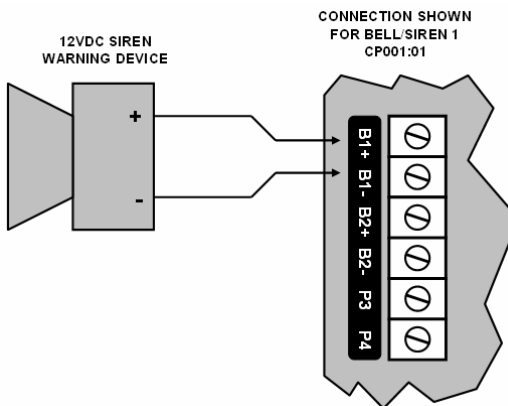

Figure 22 - Bell Siren PGM1/2 Connection
3. Connect the ACC-485 RS485 Converter to the Module Network Serial interface as shown in figure 22.